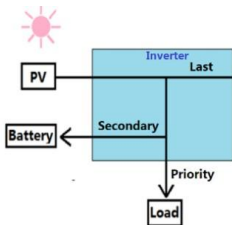

Figure 1-4
- 1.When the PV is sufficient, the PV will give priority to supplying power to the load, and then charge the battery, and then the remaining energy can be connected to the grid (Figure1-4).